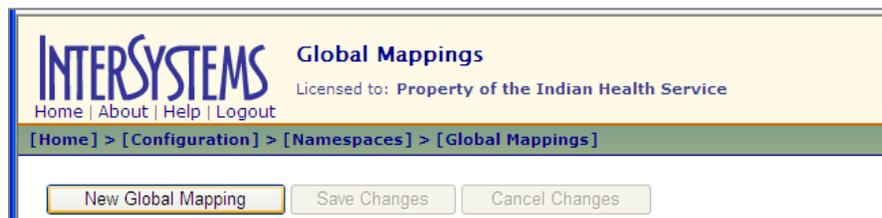

Figure 5-3: Global Mappings window, upper left portion
3. Click **Global Mappings** on the row corresponding with the ePrescribing namespace as shown in Figure 5-3: